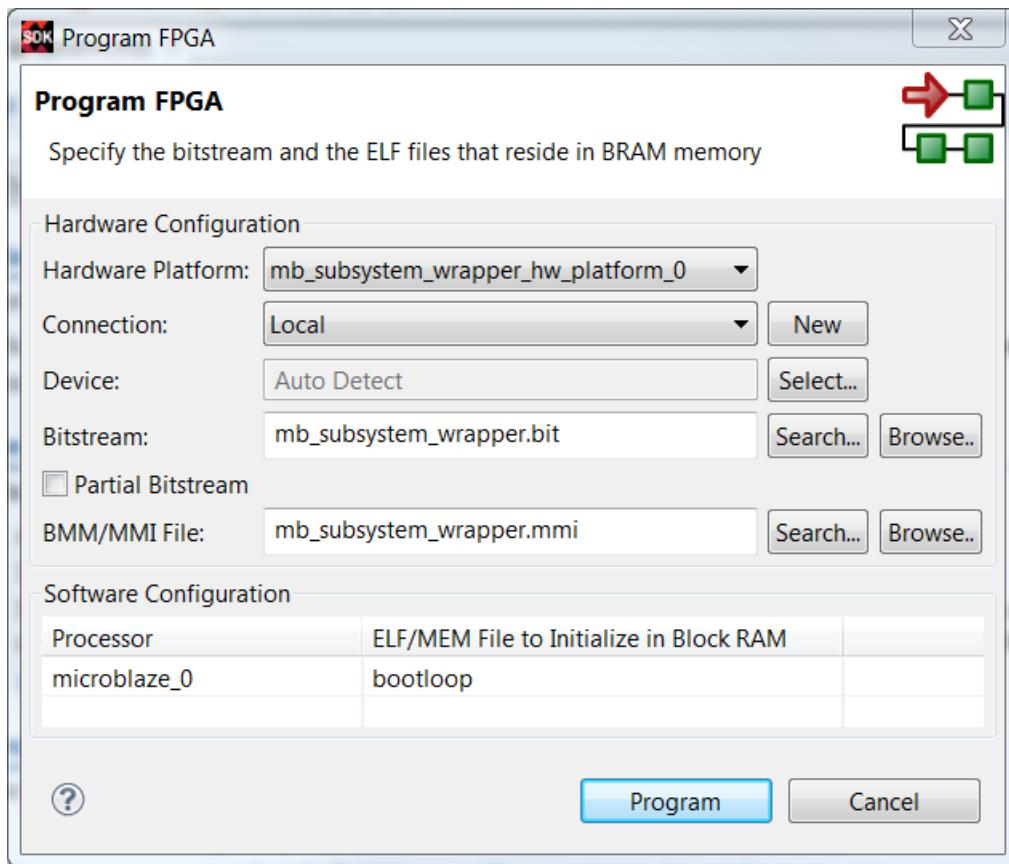

Figure 144: Program FPGA Dialog Box
2. In the Program FPGA dialog box, click **Program**, as shown in Figure 144.